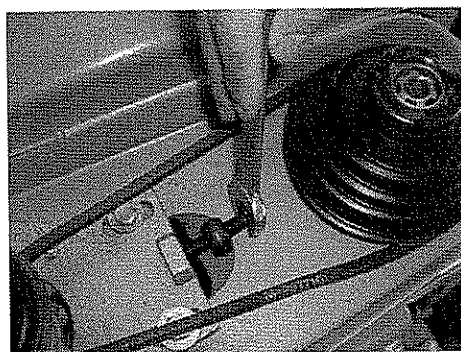

Fig. 15
7.8.2. By loosening the middle pushing bolt and the fixing bolt of motor (as shown in Fig. 15), the position of the belt can be shifted for changing the speed. After shifting the belt position, retighten the pushing blot and the motor fixing bolt in turn.